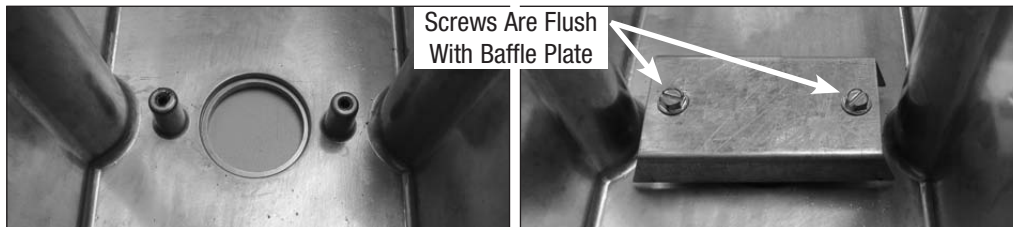

Fig 1. - Baffle Plate Installation
- Attach the baffles using the supplied screws and blue or red thread locker (thread locker not included). **(See Fig. 1).**